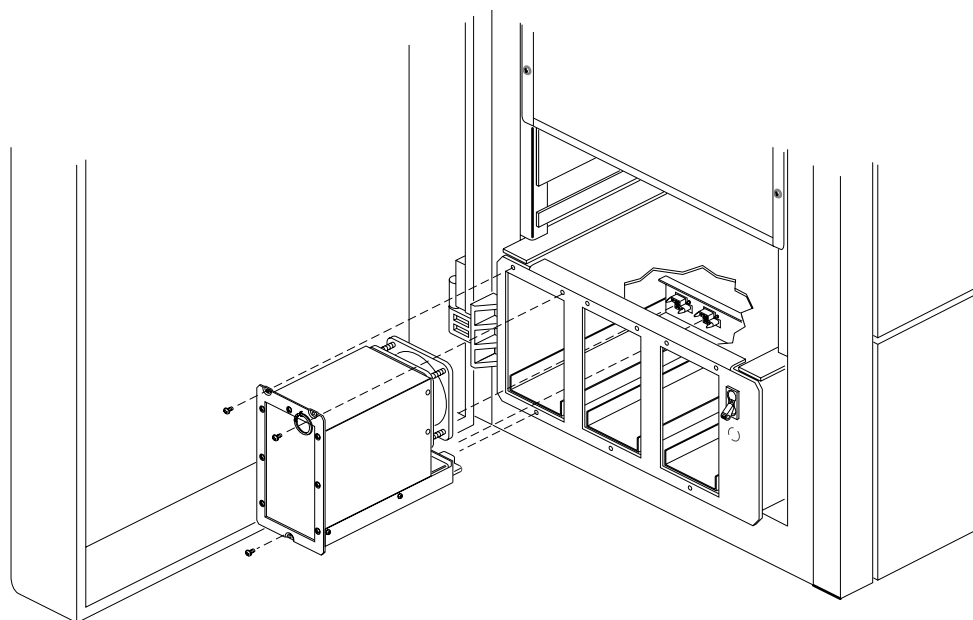

Figure 3-38 OLS Installation or Removal
5. Working from the left side of the system chassis, unfasten the nuts and screws securing the SCSI cable access port cover. Note that the lower right screw is also used to mount the lower inside blanking plate. Remove the blanking plate to provide a cable port for the second SCSIBox (see Figure 3-38).